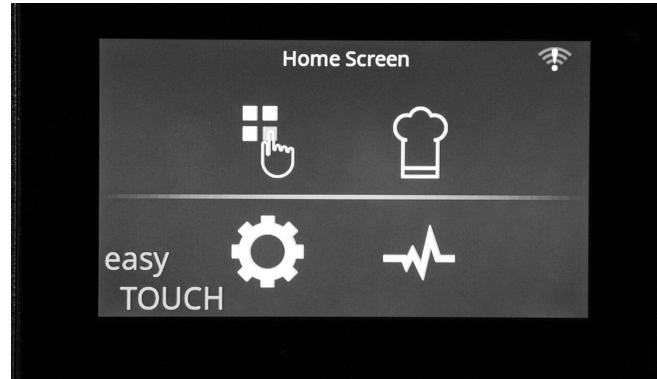
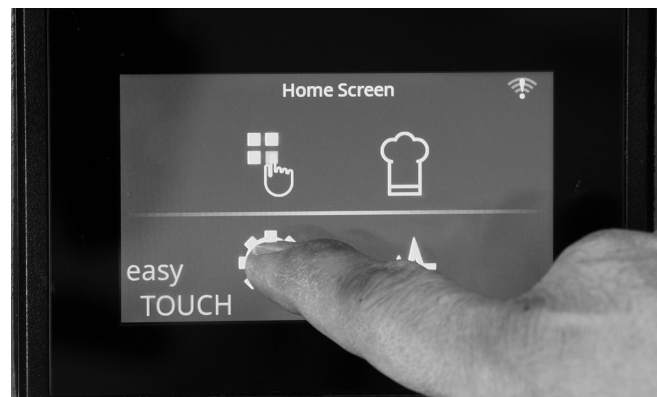

Figure 18
Figure 19
1. Press the Cog or Settings mode button on the Home screen.(Figure 18 and Figure 19)